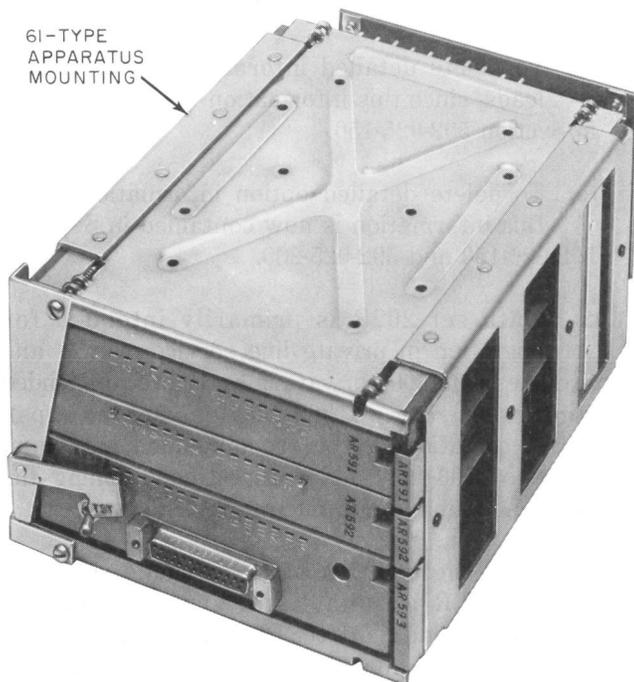

Fig. 1—Data Set 202R-L1
2.01 Data set 202R, List 1 (Fig. 1), consists of a transmitter, a receiver, and control circuits